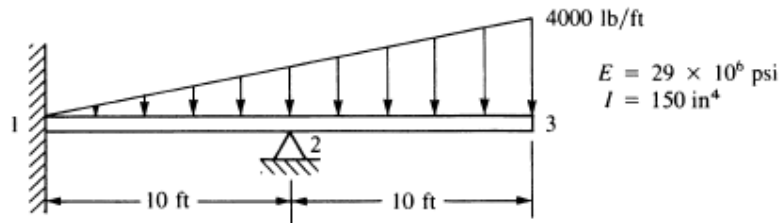

Figure 7
- (b)** For the beams shown in Figures 7, derive (1) Global stiffness matrix; (2) Global displacement vector (specifying boundary conditions); (3) Global load vector; (4) Write governing equation of beam.